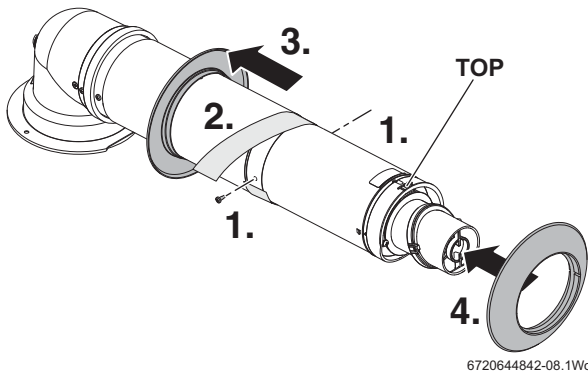

Fig. 42 Telescopic flue
1. Refer to figure 42 and set the flue length to the distance required, secure with screws provided.